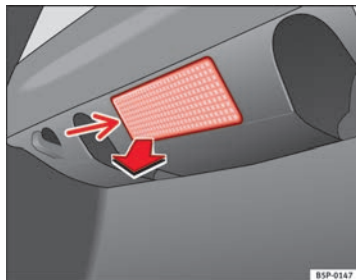

Fig. 167 Luggage compartment light
- Extract the tulip shaped fitting by pressing on the inside edge of this -arrow- using the flat side of a screwdriver ⇒ Fig. 167.